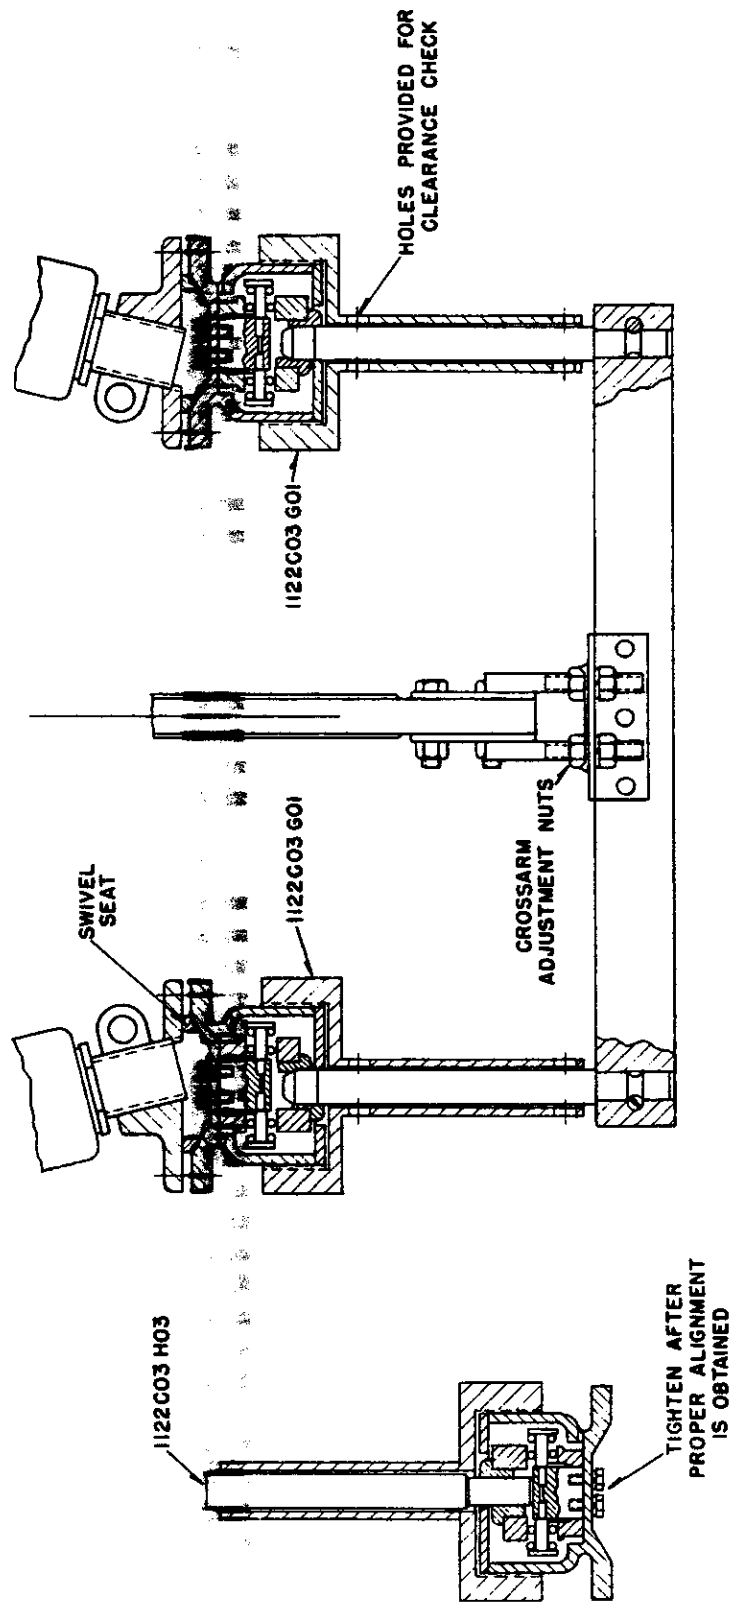

Fig. 6 Stationary Contact Alignment
1. Determine that the bayonette contacts are plumb. If not adjustment may be accomplished by the cross-arm adjusting nuts (Fig. 6). The breaker is hand closed until the bayonettes touch, the top casting is then adjusted
laterally until concentricity is obtained between the stationary contact fingers and the bayonette. The breaker is then opened and alignment tool S#1122C03G01 is screwed onto each contact foot (Fig. 6).